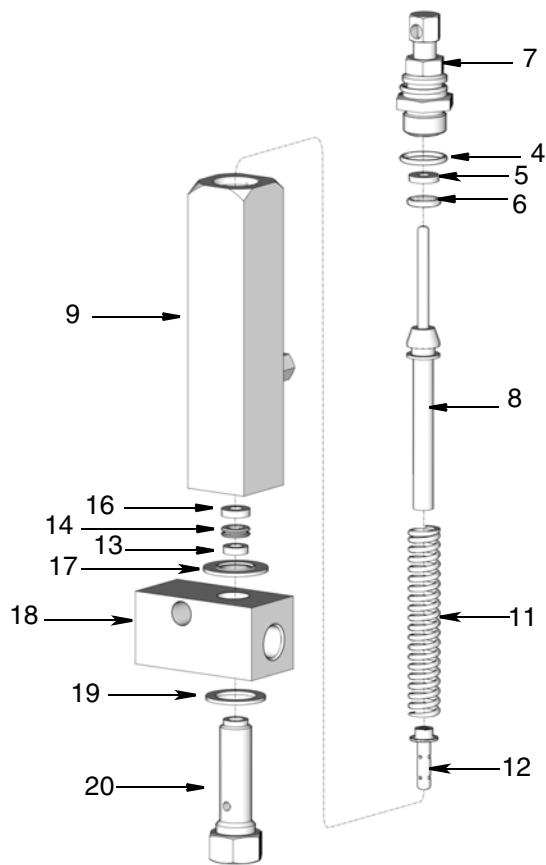

FIG. 11
- Reassemble parts in exact order shown in FIG. 11.